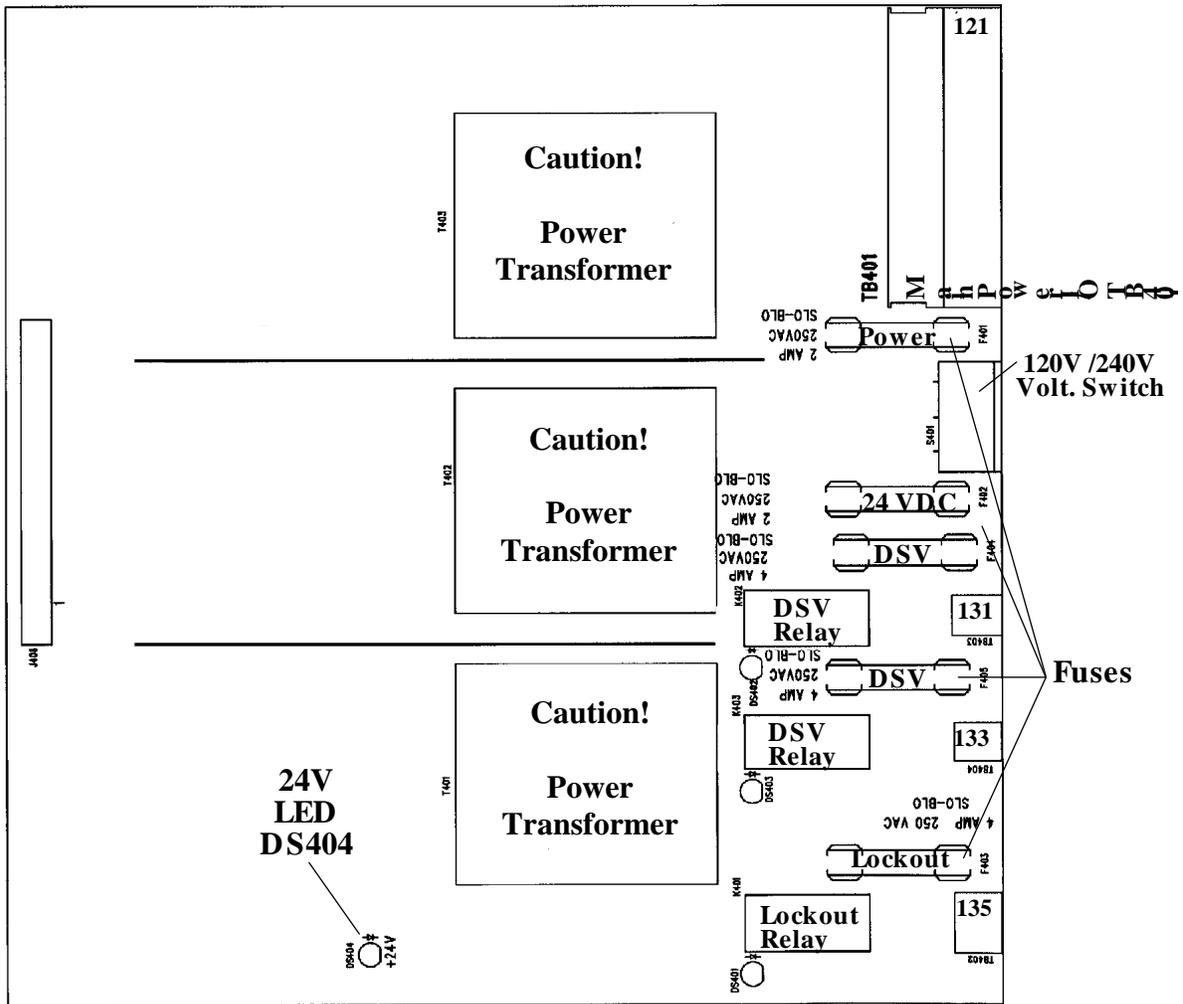

Figure 2-6b. WPC power supply boardlayout important components shown and labeled
Bring the wiring connections for AC power to a convenient point so that you can connect them to the power supply board (see Figure 2-6b). No. 16 wire (No. 14, if local codes require it) is recommended for these circuits with a minimum 75°C temperature rating. To perform the wiring, follow these steps.
3. Find the 115V-230V voltage selector switch. It can be found on the side of the power supply board (See Figure 2-6b).
5. To make ground connections, refer to the wiring schematics illustrated in Figure 4 (for Herion DSV) or Figure 6 (for Ross). Also refer to the power supply board layout (Figure 2-6b).